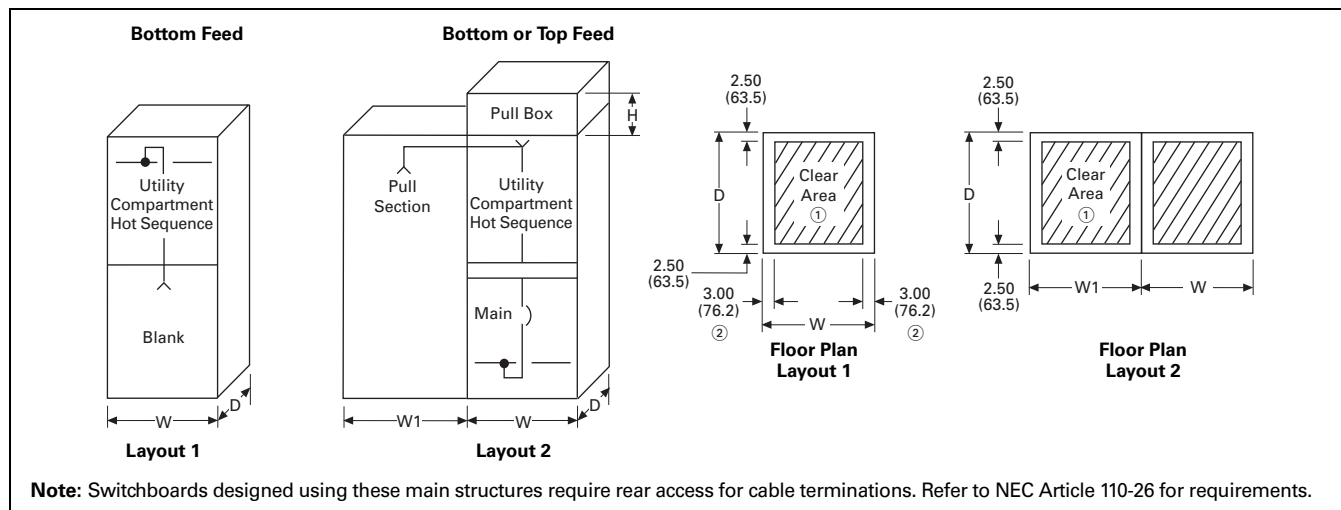

Figure 21.2-3. West Coast Utility Layouts—Dimensions in Inches (mm)
Table 21.2-2. Dimensions for Figure 21.2-3 Layouts—Dimensions in Inches (mm)
③ Refer to Eaton.
**Table 21.2-2. Dimensions for Figure 21.2-3 Layouts—Dimensions in Inches (mm) (Continued)**